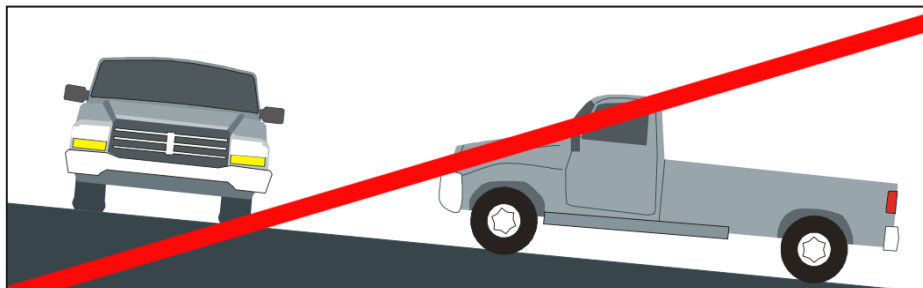

Figure 21 — Do not exceed 15° grade
- Ensure the system is not mounted (or parked) on grades exceeding 15° as this will affect lubrication and air/oil separation (Figure 21).